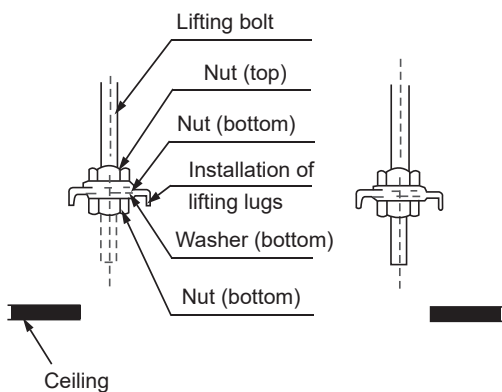

Figure 9. Steel framework
- When mounting the lifting lugs of the indoor unit on the lifting bolts, slot the nut washers of the lifting bolts in the oblong holes of the lifting lugs. The upper and lower nuts and the washers are shown in Figure 9.